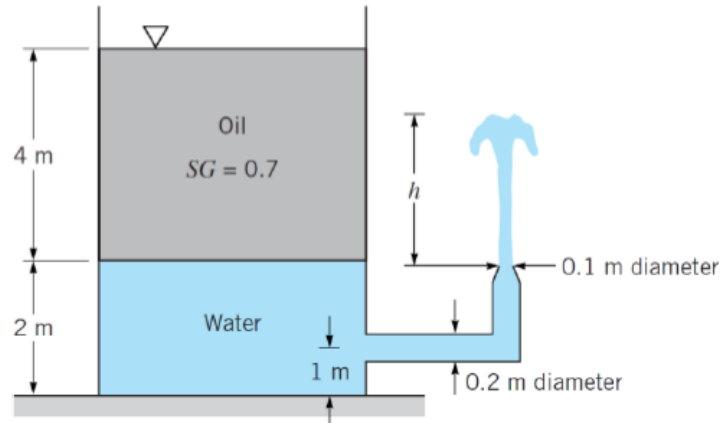

Figure 3
- 3-A large open tank contains a layer of oil floating on water as shown in figure 3. The flow is inviscid. Determine: